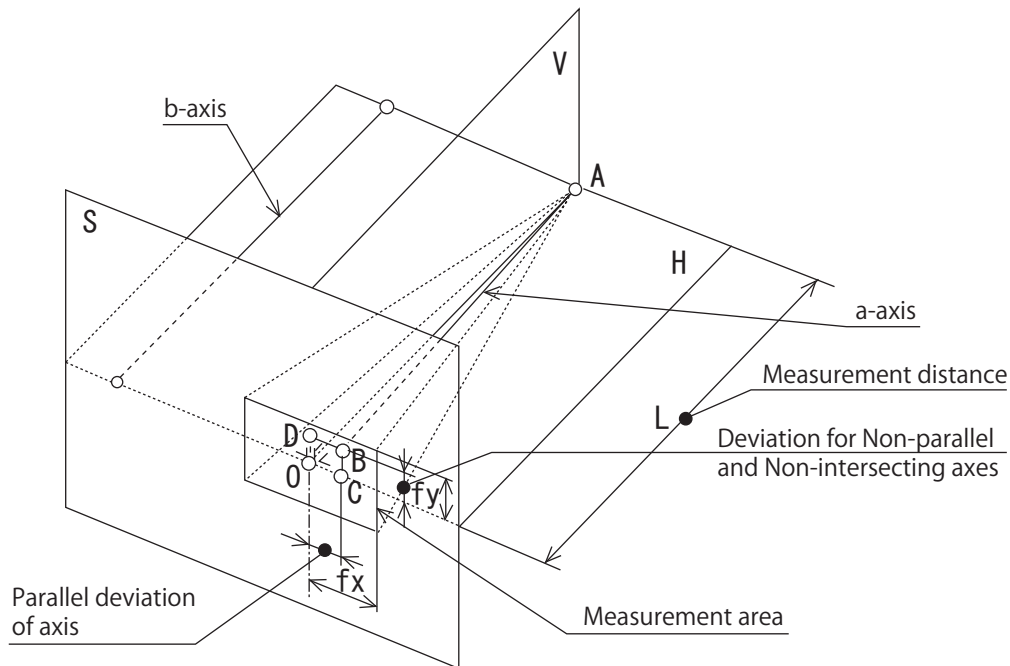

Fig. 4-1 Deviations for Parallel axis,
- 2) **Parallel deviation of axis:** Distance between C and O(1) (Refer to Fig. 4-1) where both ends of measurement distance L on the a-axis on one side of the gear are points A and B; and Flat face H is surface to include one of the points A and one of shaft centre b (b-axis); and flat face V is surface through point A and parallel to b and perpendicular to flat face H, and orthogonal projection of point B to H is C.
- 3) Refer to Fig.4-1, **deviation for Non-parallel and Non-intersecting axes:** Distance between points O and D where D is orthogonal projection of point B to V, referring to above (2).